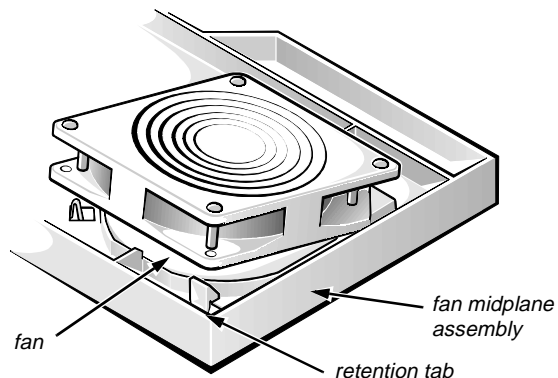

Figure B-12. Removing a Cooling Fan
4. Remove the cooling fan by releasing the fan retention tab (see Figure B-12).